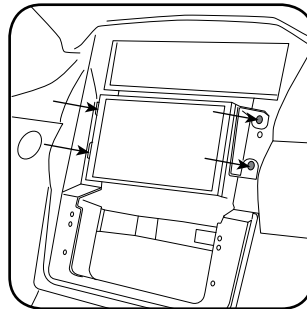

Fig. 3.1
6. Press the radio into the dash cavity and secure it with the four 7mm screws removed earlier. (Fig. 3.1)